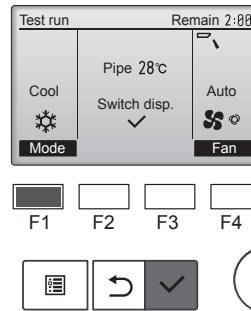

Fig. 8-3
- (1) Press the [F1] button to change the operation mode. (Fig. 8-3)